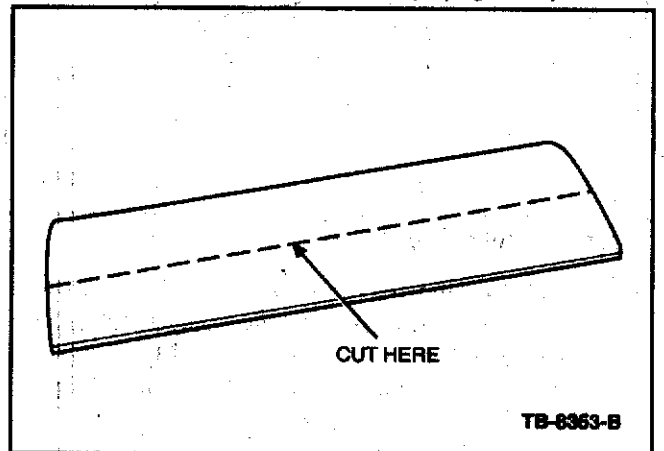

Figure 7 - Article 06-14-10
8. Obtain two (2) PVC soft foam adhesive stripes (164-R4901) from the Rotunda Squeak And Rattle Kit (164-R4900).
9. Cut both of the PVC soft foam adhesive stripes in half, lengthwise, so you have four (4) pieces $7/8$ " x 6" (22 mm x 152 mm). (Figure 7)